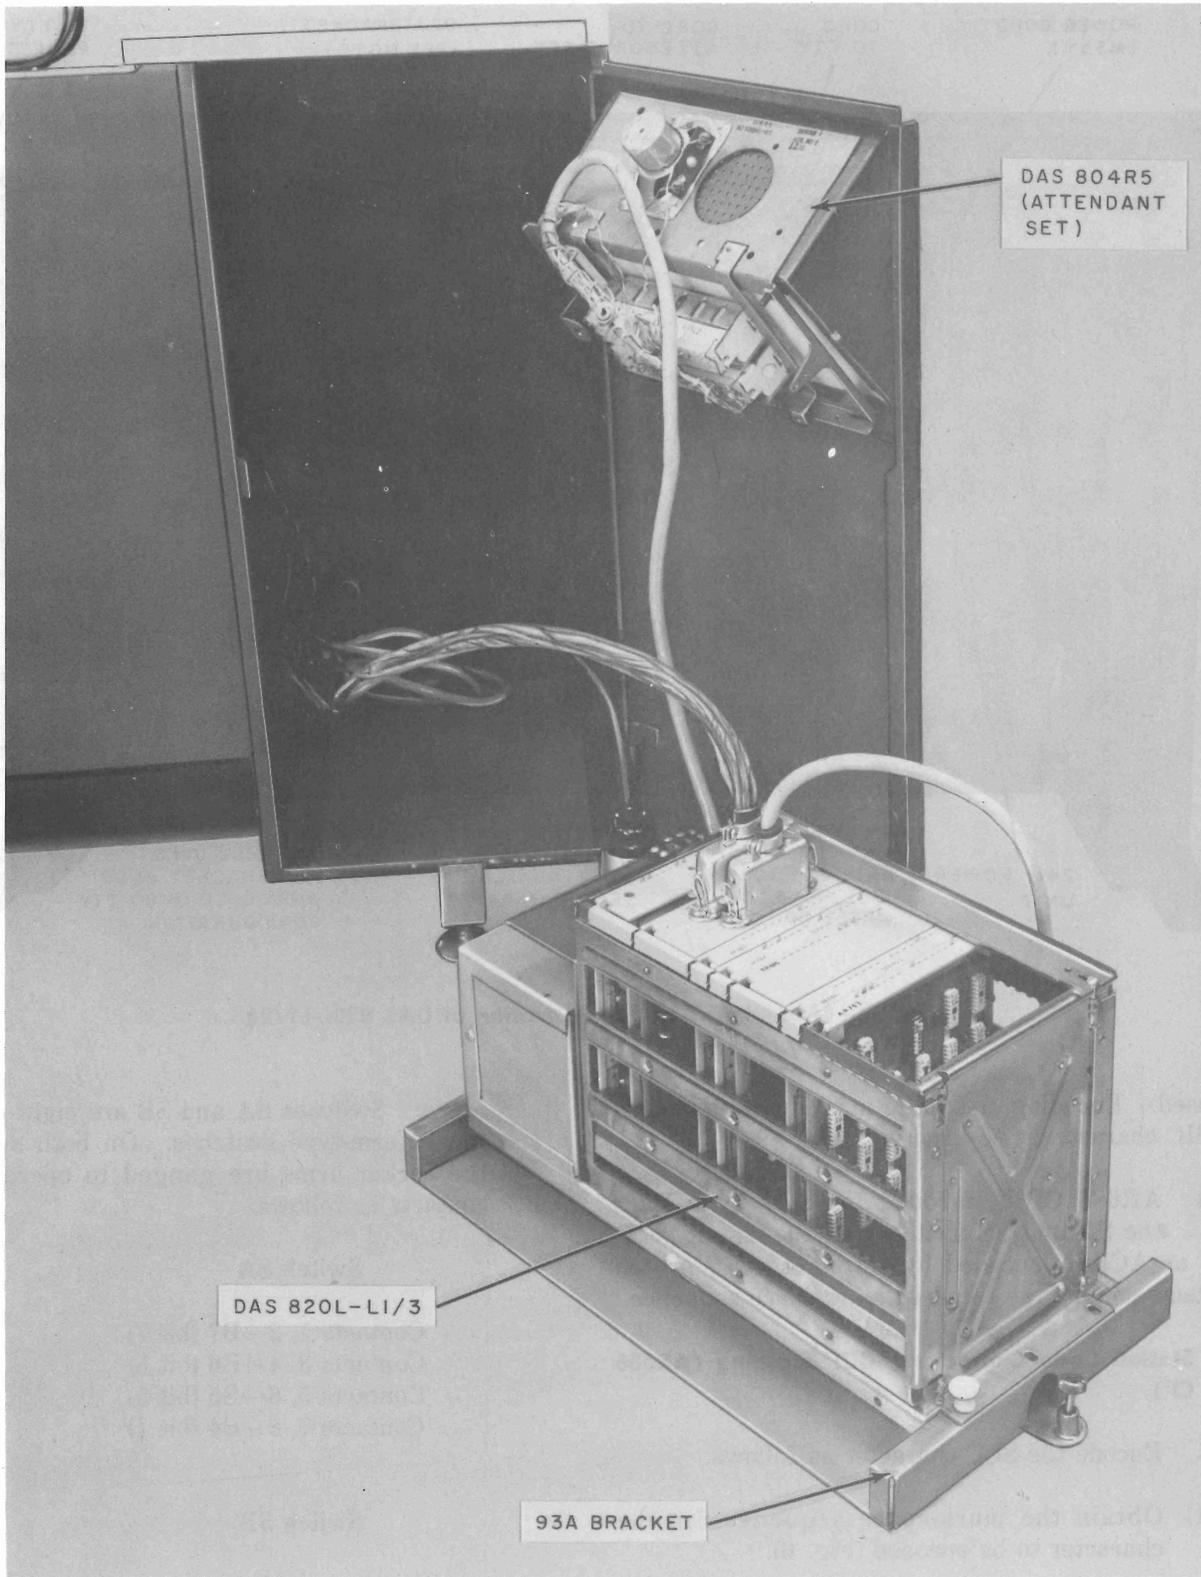

Fig. 3—Model 37 ASR TTY—DAS 820L-L1/3 in the Maintenance Position
2.03 To obtain access to the DAS 820J- and L-type and data set 108-type, 109E, or AR751 CP, the right compartment panel is opened. Maintenance of these units is performed by sliding the DAS out of the compartment and placing the controller in any convenient position as shown in Fig. 3.